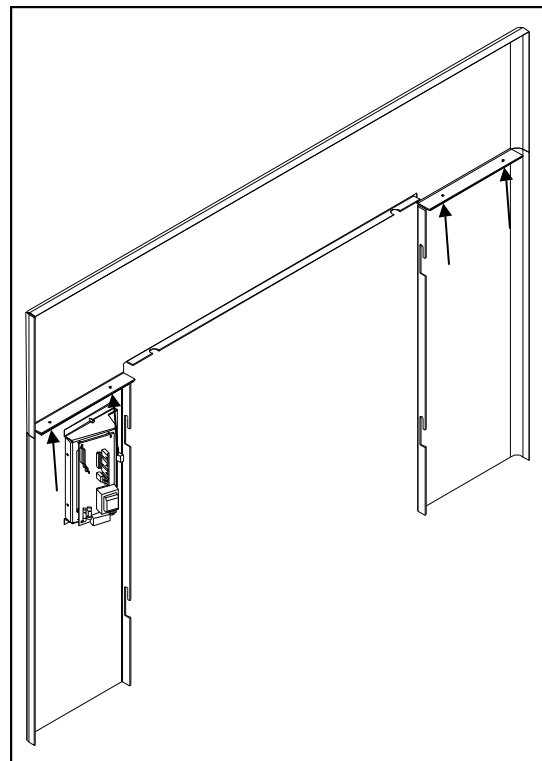

Figure 37: Assembled Surround Panel.
1. To assemble the surround panels, lay the panels face down on a soft flat surface and align the outer edges of the sides with the top panel. Using four (4) T-20 screws up through the side panels into the top (see Figure 37).